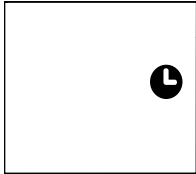

Fig. 4
- Press several times until the corresponding time is displayed. Wait about 5 seconds, the timer will be active, then only the symbol is displayed on screen. (fig 4)